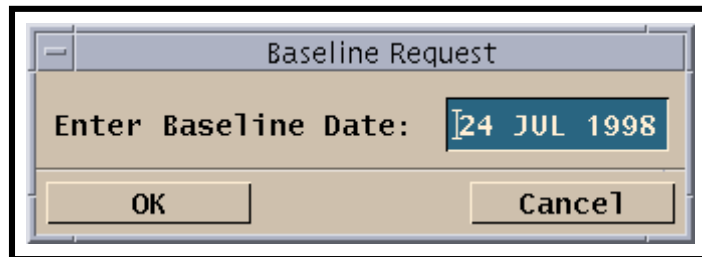

Figure 7. Baseline Request Pop-Up Window
- The **Baseline Request** pop-up window (Figure 7) is displayed.